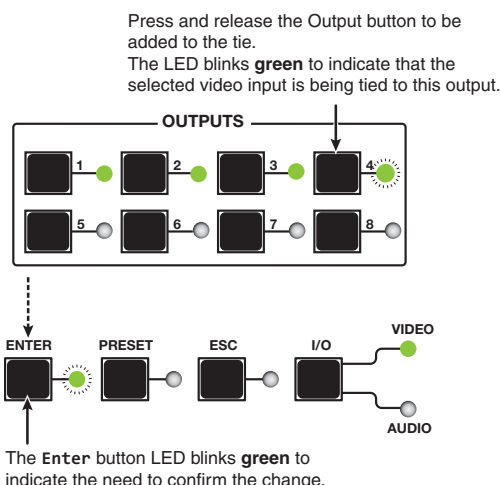

Figure 45. Selecting an Additional Output (Video)
4. Press and release the button for the output to be added to the tie. The LED for the selected output button blinks green (for video only, see figure 45) or red (for audio only) to indicate that the selected input is being tied to this output.